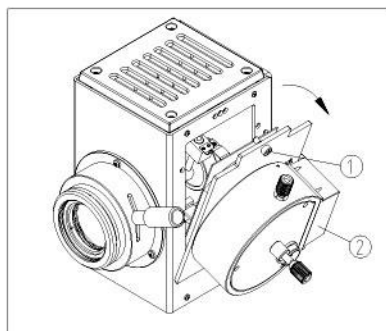

Fig. 5
Mercury Lamp (Fig. 5 & 6)
Loosen the lock screw ① of the mercury lamp socket assembly ② on the mercury lamp housing using the M4 Allen key, and remove the socket assembly (Fig.5).